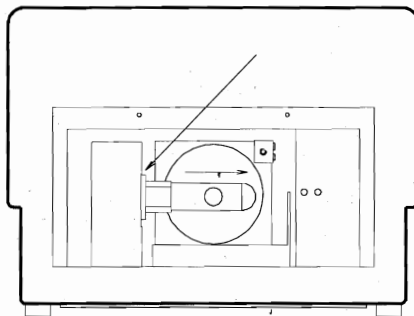

Fig. 6.4
- **Grasp the lamp by the lamp base.** Pull the lamp out to the right, see fig. 6.4. **Take care** when pulling to overcome the holding force of the base.